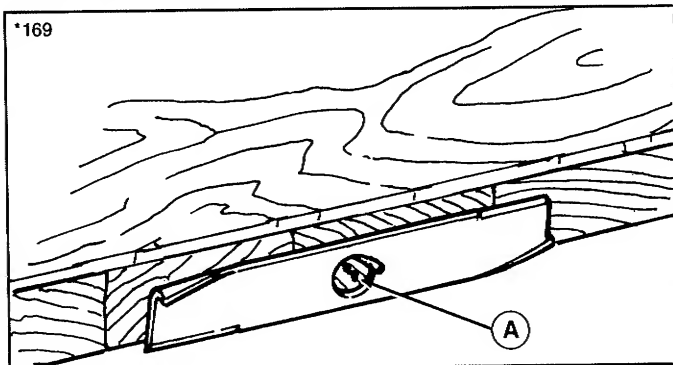

Figure 17.
3. To balance the blade, use a balancing machine or the following procedure. Drive a small nail into the side of a workbench or other vertical surface as shown in figure 17. Lubricate the nail with a drop of oil. Center the blade center hole on the nail. A balanced blade will remain level. File material off heavier end of blade until it is balanced.